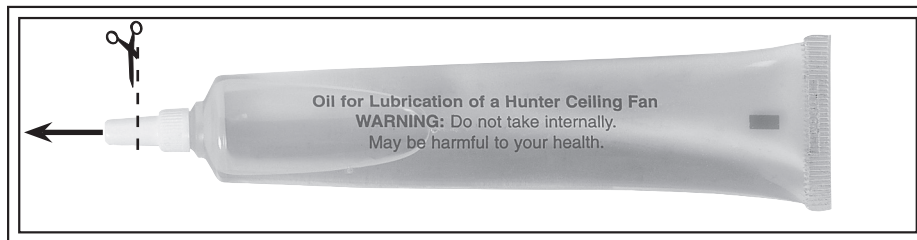

Fig. 11
2. Cut the tip off the end of the tube (see Fig. 11).